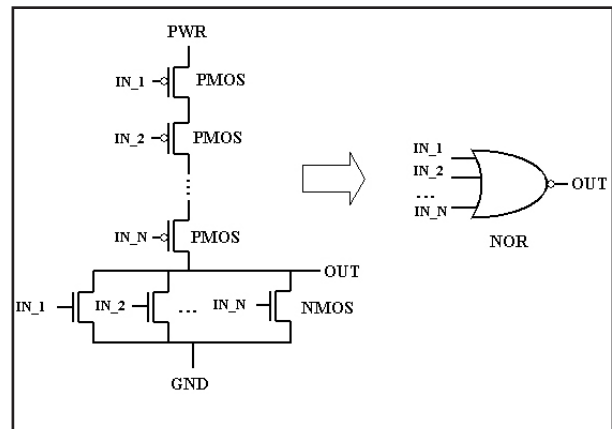

Figure 5. NOR\_N
- **NOR\_N** — CMOS **NOR** with N inputs (Figure 5.)